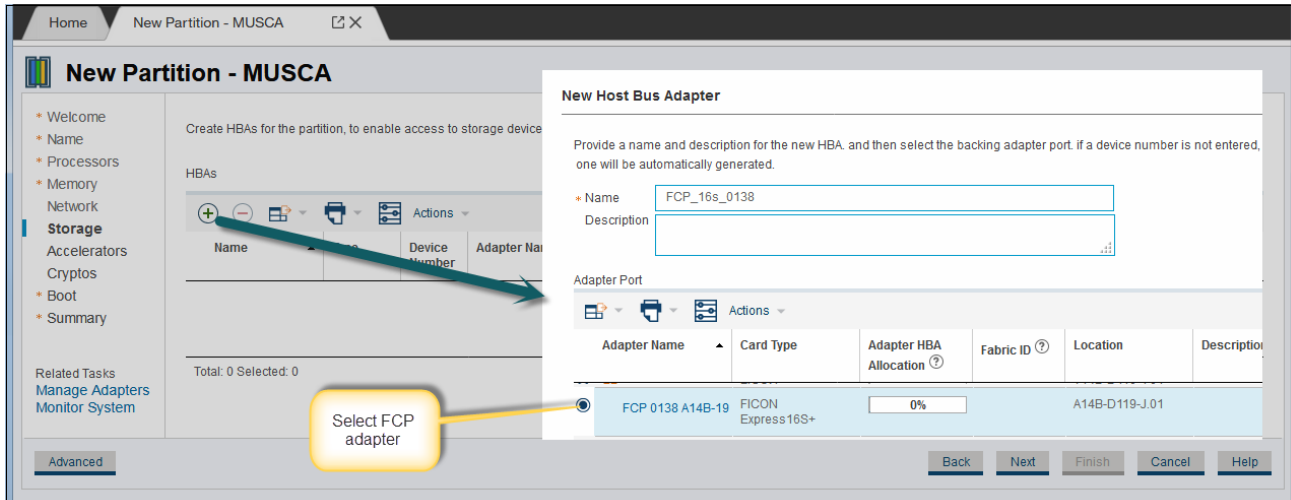

Figure 16-37 Selecting FCP adapter
- We select a storage access (host bus) adapter for our partition, as shown Figure 16-37 on page 412. Because we use SCSI protocol for storage access, we select an adapter that is configured as FCP.